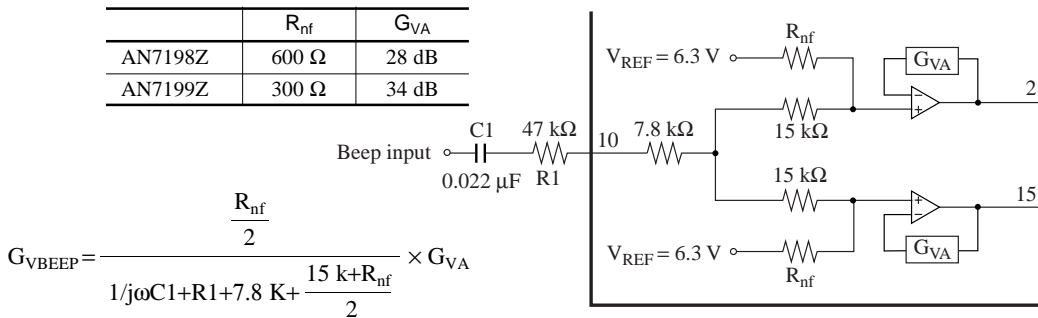

Figure 8
(1) The application circuit example when using the beep sound input is shown in Figure 8. Connect the beep signals from the microcomputer to pin 10 via the capacitor C1 for DC cut and the resistor R1 for voltage gain adjustment.
(2) The voltage gain of beep sound terminal is approx. -6.2 dB.
The setting value of Figure 8 becomes approx. -19.7 dB (f = 1 kHz).